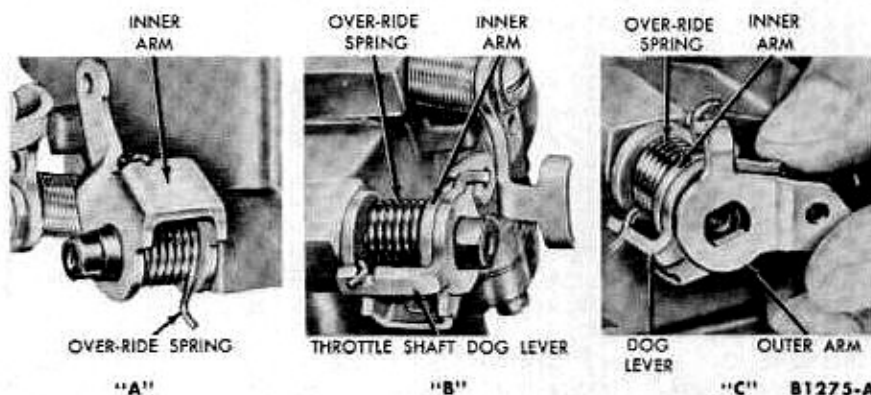

FIG. 39—Secondary Over-Ride Spring Installed
8. Position the secondary over-ride spring in the primary throttle shaft inner arm and slide the assembly on the primary throttle shaft as shown in Fig. 39-A.
9. Invert the carburetor and position the throttle shaft dog lever on the primary throttle shaft and hook the inside tang of the spring in the groove on the lever arm (Fig. 39-B). Hook the primary throttle shaft outer arm on the outside tang of the spring and position the arm on the primary throttle shaft as shown in Fig. 39-C.